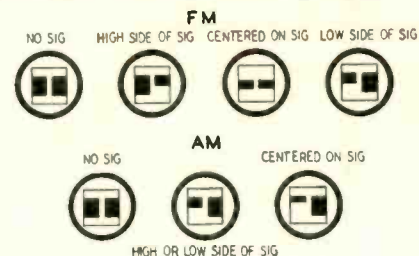

Fig. 2—Patterns on 6AL7 dual-eye tube when tuning through a signal.
**Tuning eye**—A 6AL7-GT dual-eye tube was used to indicate both limiter and discriminator voltages. Fig. 2 shows the different patterns when tuning through a signal. By connecting the second deflecting electrode (pin 4) to the arm side of the audio selector switch S1-b, the eye tube was also made to indicate the AM avc voltage.